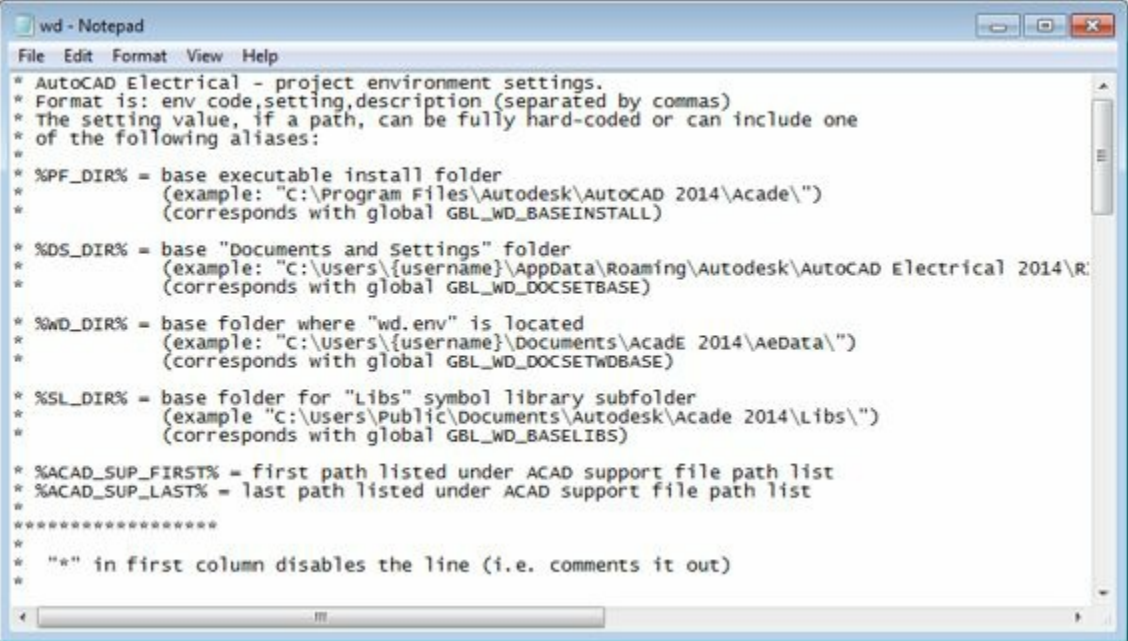

Figure-42. wd file in notepad
- Open the **wd.env** file using any text editor(in our case, Notepad). The file will be displayed as shown in Figure-42.